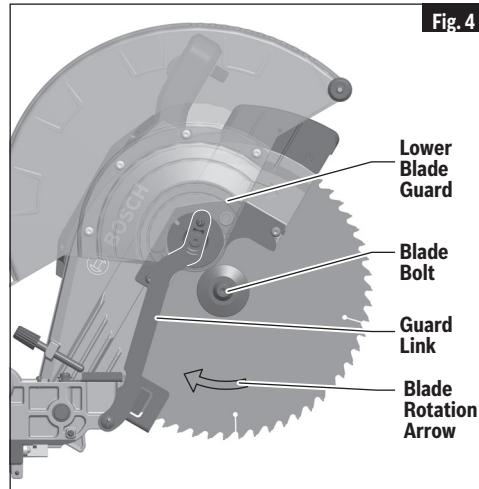

Fig. 4
1. Position the saw in the UP position and at 0° bevel. If in the DOWN position, press down slightly on the saw head assembly and pull out the head assembly lock pin (item 43, page 12); then allow the saw head to come up.
2. Rotate Lower Blade Guard until there is a clear access to the Blade Bolt (Fig. 4).
3. Press and hold the arbor lock (red button on opposite side of upper guard – item 42, page 12). Rotate the blade slowly while pressing the arbor lock until it fully seats into its lock position.
2. Carefully handle the new blade. Check that the rotation arrow on the blade matches the rotation arrow on the lower guard. Slide the blade up and between the sides of the chip deflector and over the arbor shaft. Move the blade so its arbor hole goes around the support ring of the inner washer (see Fig. 4 and 5).